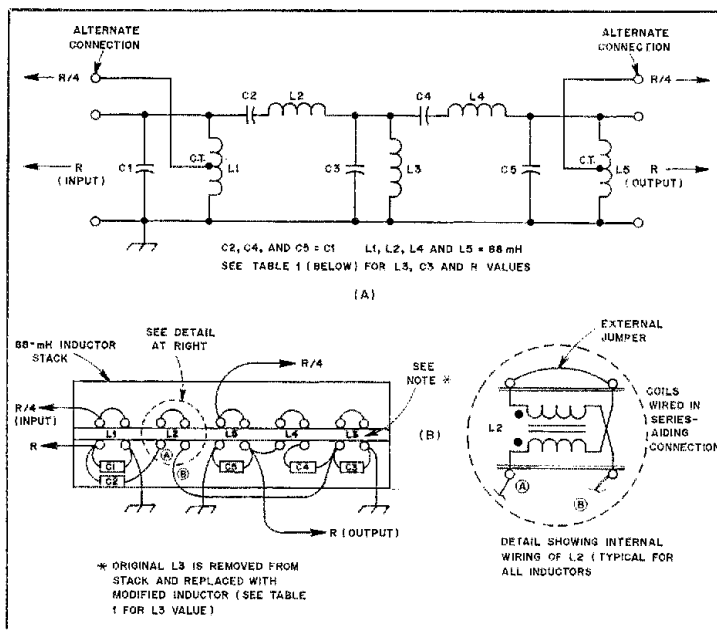

Fig. 1 — (A) Schematic diagram of the band-pass filter. (B) Pictorial diagram.
A simple but effective band-pass filter for receiving the 1200- and 2400-Hz tones of OSCAR can be easily and inexpensively constructed with a single stack of five 88-mH inductors and one modified 440-mH inductor. See Fig. 1 for the schematic and pictorial diagrams of the band-pass filter. In particular, note the convenient capacitor values (all standard, with C3 being on the 2% low side of 0.33 μ F), and the convenient 580- Ω source and load terminal impedance required by the filter. For those receivers having a 600- Ω output, an 18-k Ω , 1/2-watt resistor can be connected in parallel with the receiver audio output to obtain the desired 580- Ω source for the filter. The filter load should also closely approximate the 580- Ω value. A precise match is not necessary, and anything within $\pm 20\%$ will suffice.
- 5) Connect the capacitors as shown in the pictorial diagram, Fig. 1. The inductor terminals make a convenient tie point for all capacitors. The center taps of L1 and L5 provide an alternate input/output connection for source and load impedances of 145 Ω . This completes the filter construction.